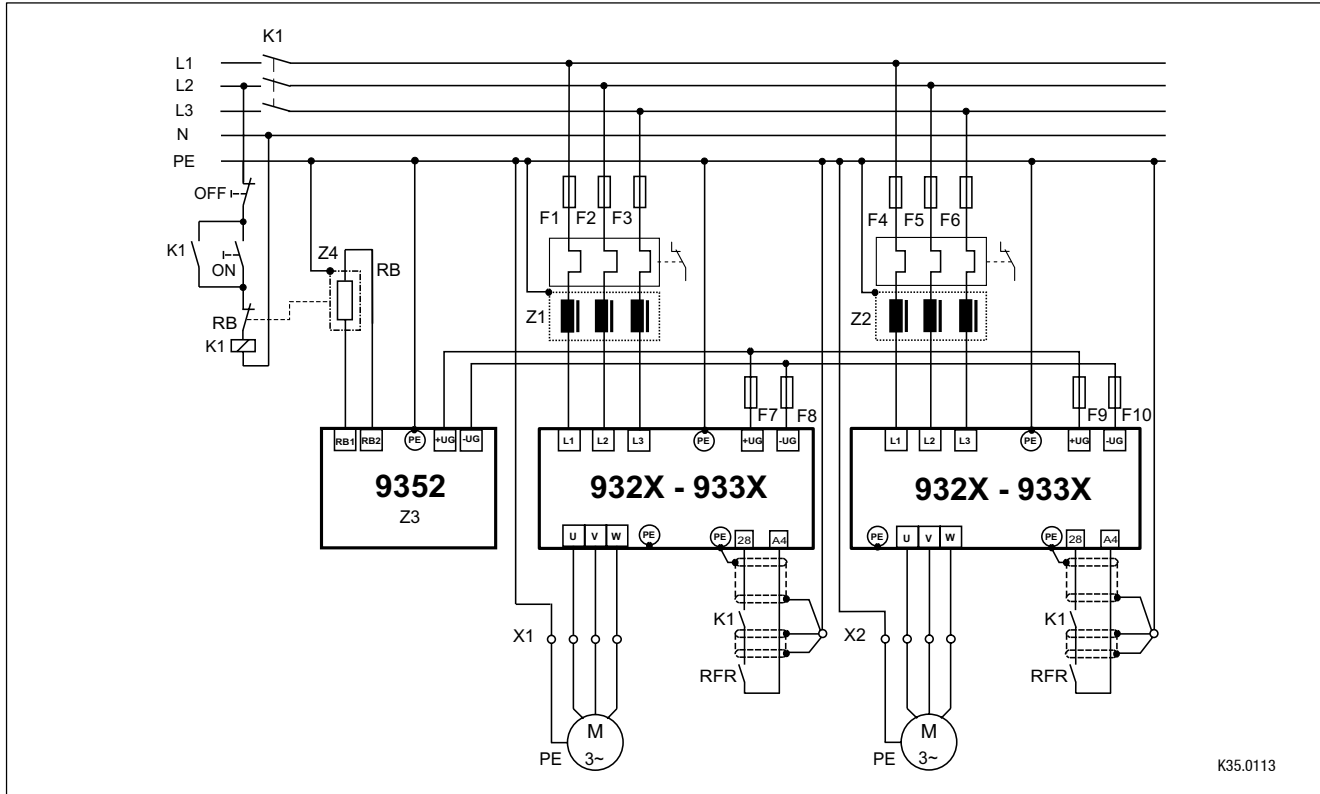

Fig. 4-9 Decentralized supply for DC-bus connection of several drives
- Fig. 4-9, "Decentralized supply for DC-bus connection of several drives". (□ 4-18)